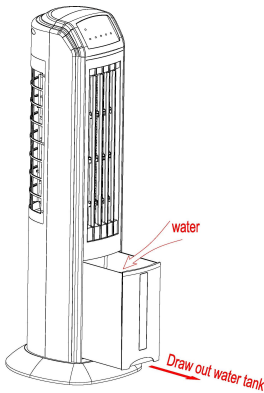

Figure 3
1. Pull out the water tank and fill it with water before operating the fan (see Figure 3). Do not pour water above 40°C into the water tank.